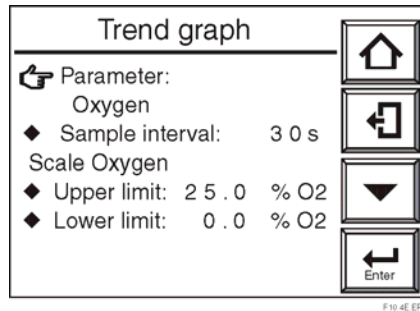

Figure 10-4 Trend Graph
3. Select Trend Graph from the Display Setup display screen. The Trend graph display shown in Figure 10-4 appears.